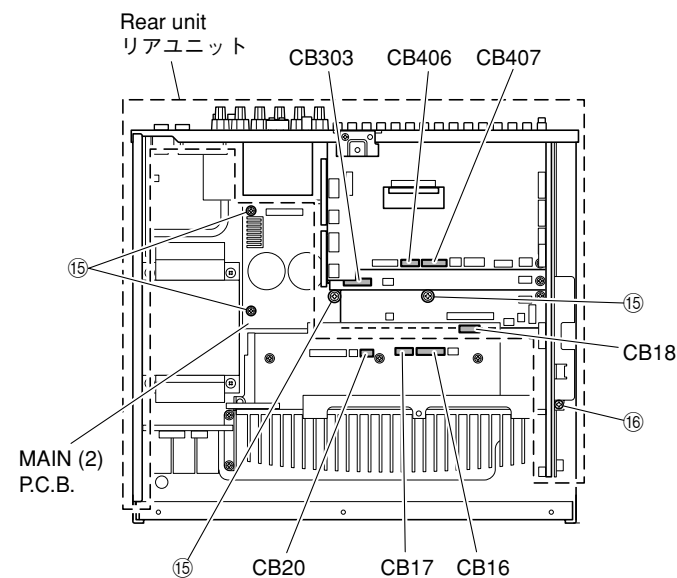

Fig. 7
- Remove 4 screws (15), 1 screw (16) and 1 screw (17). (Fig. 7)
- Remove CB16-18, CB20, CB303, CB406 and CB407. (Fig. 7)
- Remove the rear unit and MAIN (2) P.C.B.. (Fig. 7)
- ⑮のネジ4本、⑯のネジ1本、⑰のネジ1本を外します。(Fig. 7)
- CB16-18、CB20、CB303、CB406、CB407を外します。(Fig. 7)